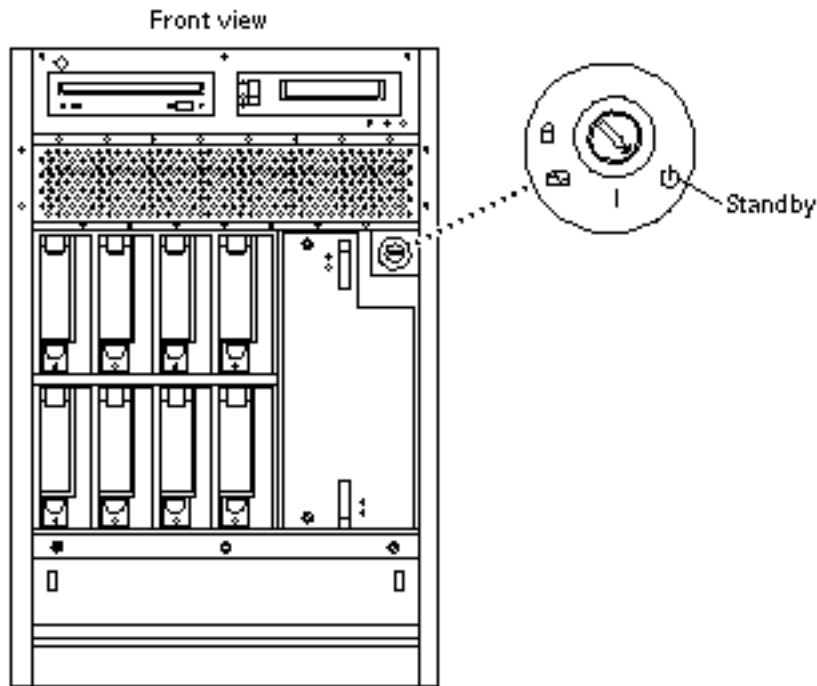

Figure 2-2 Key Switch Standby Position
2. Locate the system key switch in the upper right corner, insert the key provided, and turn the key switch to the Standby position. See Figure 2-2.